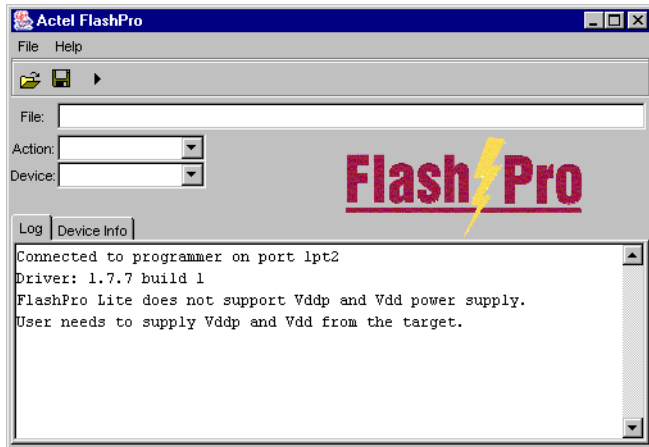

Figure 3-2. FlashPro: Successful Connection
4. **Click Connect.** A successful connect or any errors appears in the Log window, as shown in Figure 3-2. If you encounter failures, please refer to “Error Messages & Trouble Shooting Tips” for more information.